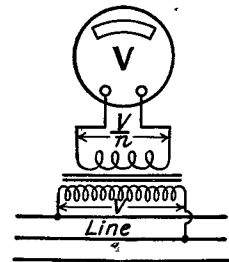

Fig. 6.—HOW A POTENTIAL TRANSFORMER IS USED TO CONNECT A VOLTMETER ON AN E.H.T. SYSTEM.  $n$  = ratio of transformer.
A similar arrangement is used for the voltmeter circuit which employs a potential transformer. The diagram for this transformer is shown in Fig. 6 and the connections should be compared with those of a current transformer as shown in Fig. 5 (A). For a voltmeter the transformer reduces the voltage from that of
The primary of a potential transformer is connected across two of the lines, as shown in Fig. 6, while the secondary is taken direct to the meter. The primary winding will consist of a large number of turns of fine wire, while the secondary winding will have only a few turns, since the voltage is directly proportional to the number of turns.